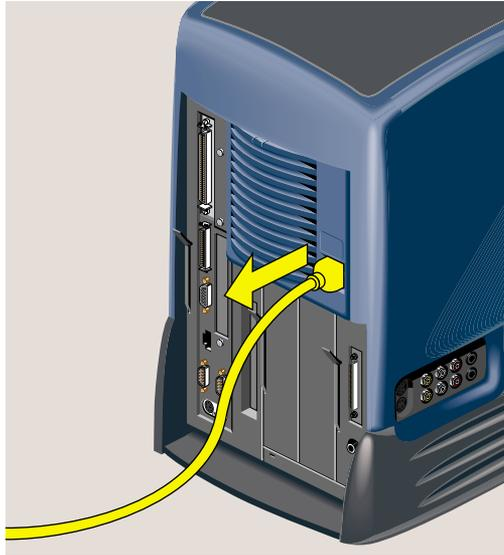

Figure 2-2 Disconnecting the Power Cables
2. Remove the power cable from the rear (Figure 2-2).